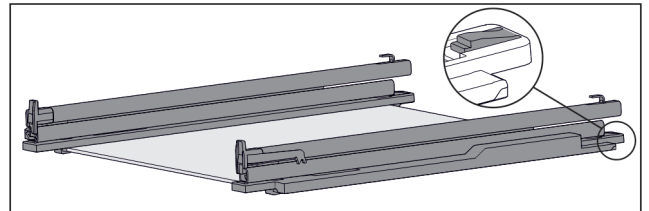

Fig. 154 Glass shelf with rails and retaining parts
- ▶ Press down retaining part at the rear (see Fig. 154) and at the same time push the rail back.